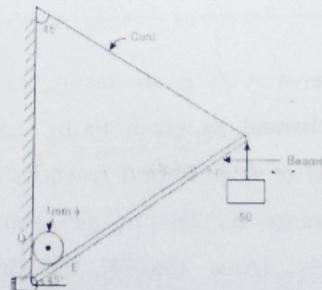

Fig 2.28
- 1) A cylinder of diameter 1m and weighing 1000N and another block weighing 500N are supported by beam of length 7m weighing 250N with the help of a cord as shown in fig 2.28. If the surfaces of contact are frictionless determine tension in cord and reaction at points of contact.